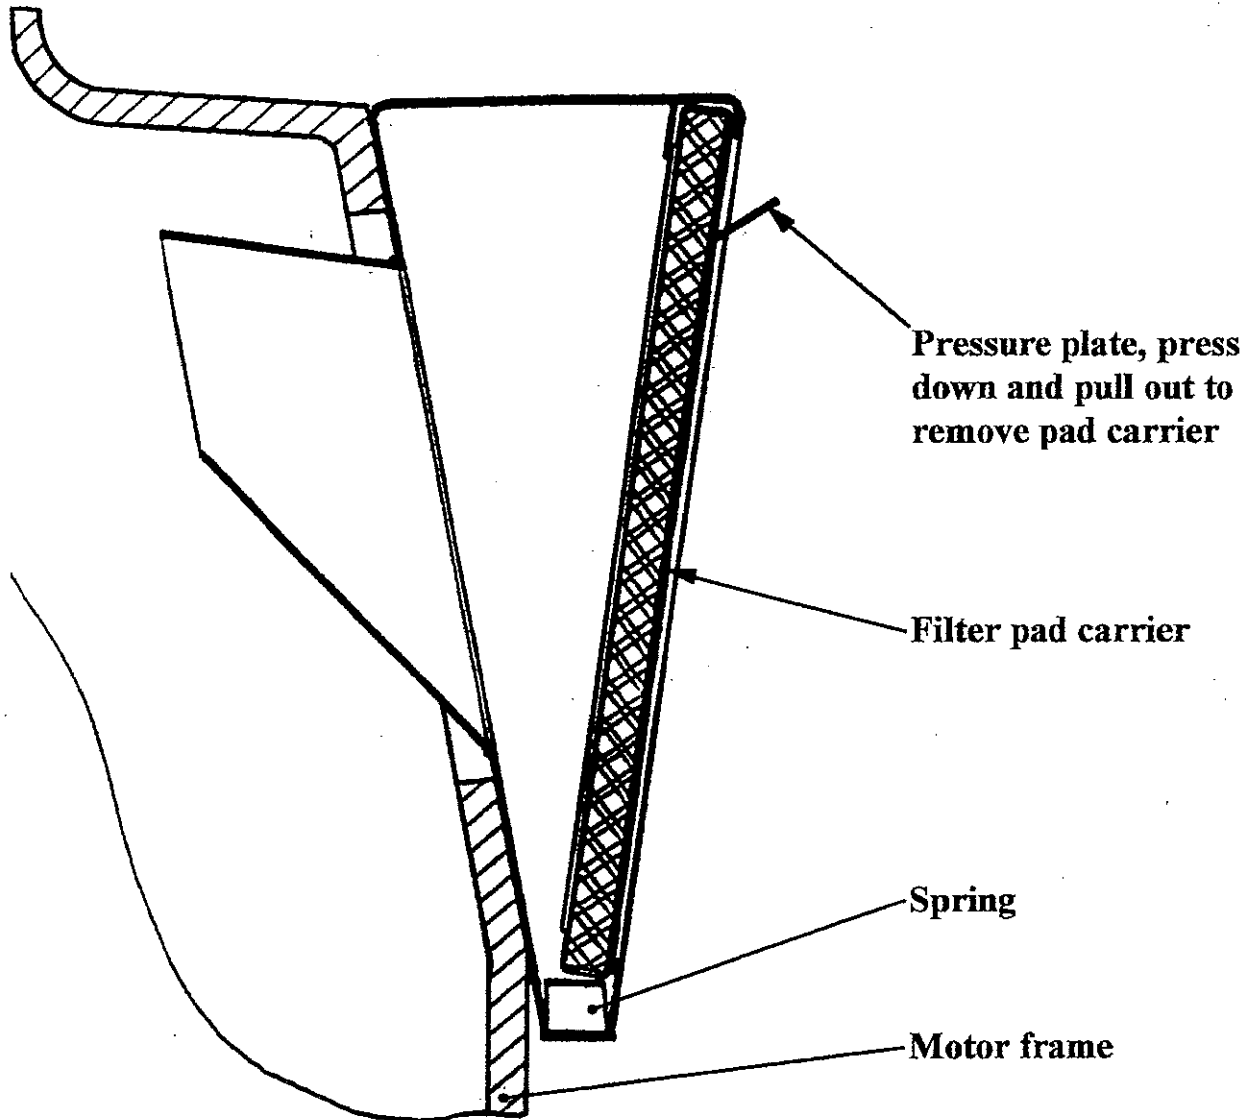

Figure 1
2. Fit a filter pad (see Materials item 1) in the pad carrier of the side air intake (see Figure 1).
4. Replace with the winterised traction motor covers (see Materials items 2 and 3) ensuring that the fasteners are effective and safety catches are engaged.